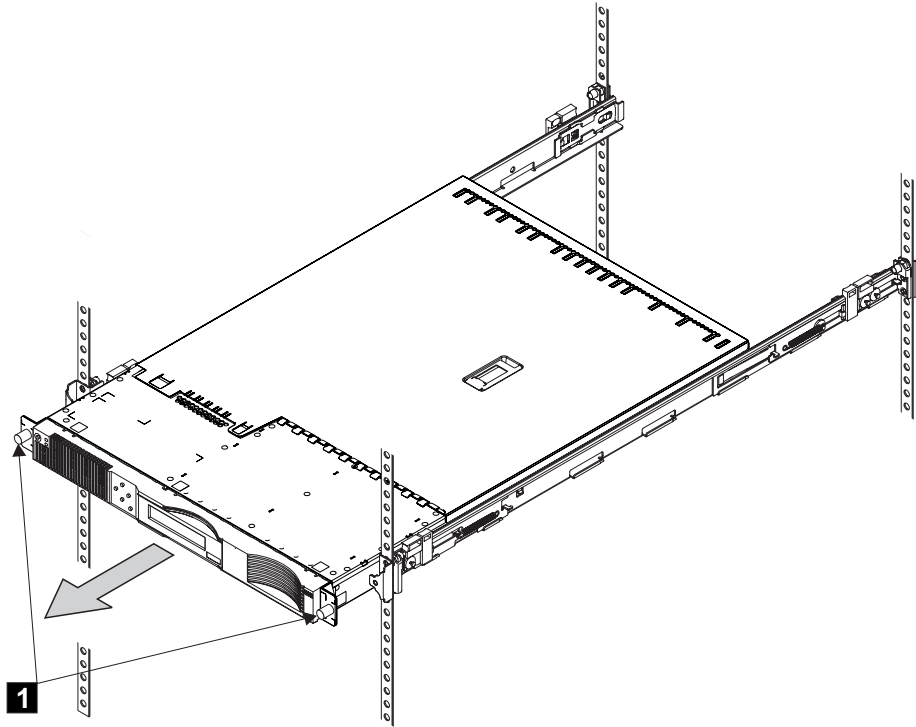

Figure 66. Unscrewing the front screws to remove the SAN Volume Controller 2145-4F2
1. Unscrew the two front screws **1** as seen in Figure 66 on page 324.